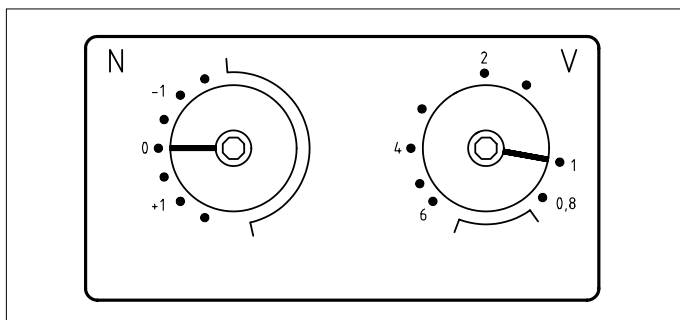
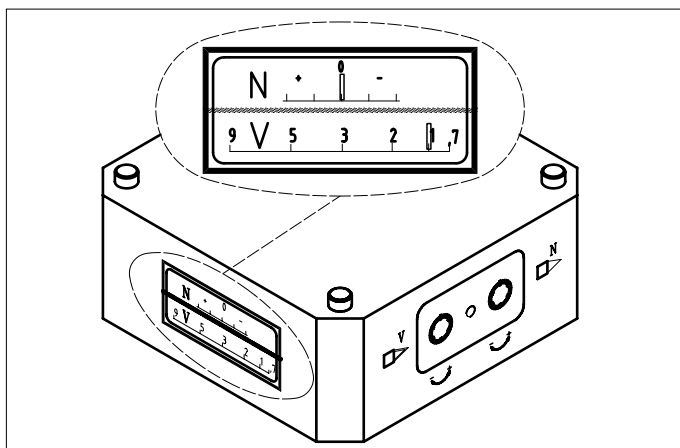

Fig. 21 N - V controller, boiler with 7 and 9 sections
Fig. 22 N - V controller, boiler with 11 to 19 sections
4. Check the presetting of the N- and V- controllers (see fig. 21 for 7 and 9 sections, and fig. 22 for 11 to 19 sections):
14. Measure the CO₂ percentage at full load, in the flue gas discharge pipe, directly above the casing. The measured value must be compared with the value indicated in the table. If the measured value deviates from the value mentioned in the table, it can be adjusted by turning the V-controller (see figure 21 or 22) on the gas multi-block.
Measure the CO₂ percentage, compare the measured value with the table value. If it deviates more from the desired value than the tolerance mentioned in the table, this value may be adjusted by turning the N-controller (figure 21 or 22) on the gas multi-block. If, after turning the N-controller, the CO₂ percentage corresponds with the table value or in any case remains within the mentioned tolerance, check the following points: